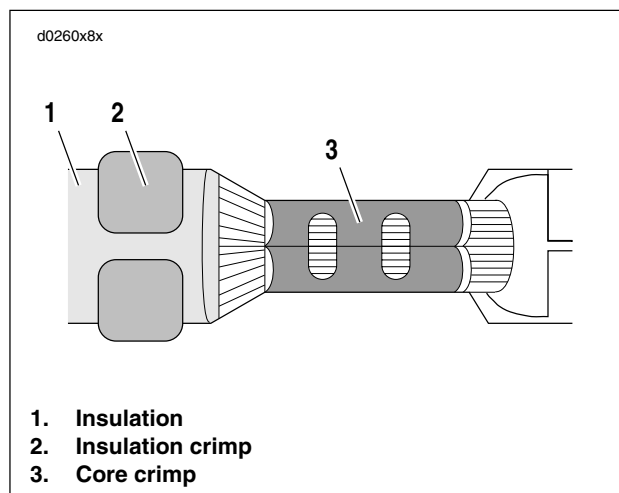

Figure B-16. Inspect Core and Insulation/Seal Crimps
11. See Figure B-16. Inspect the quality of the core (3) and insulation/seal (2) crimps. Distortion should be minimal.